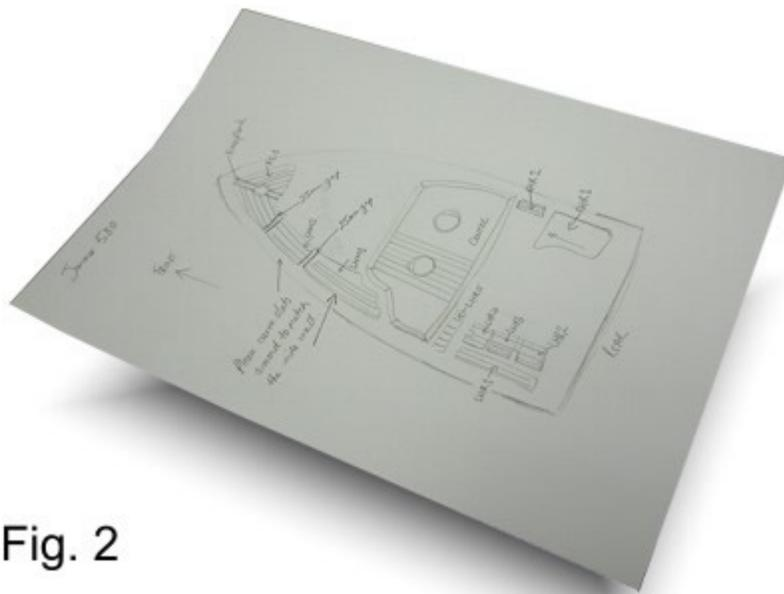

Fig. 2
1. Sketch your boat. We highly recommend you sketch your boat to make it easier for us to understand how you templates go together. Your sketch should indicate which template go where and the direction you wish the slats to run, also any special instructions such as curving some slats or the location of a king plank etc (see Fig 2)